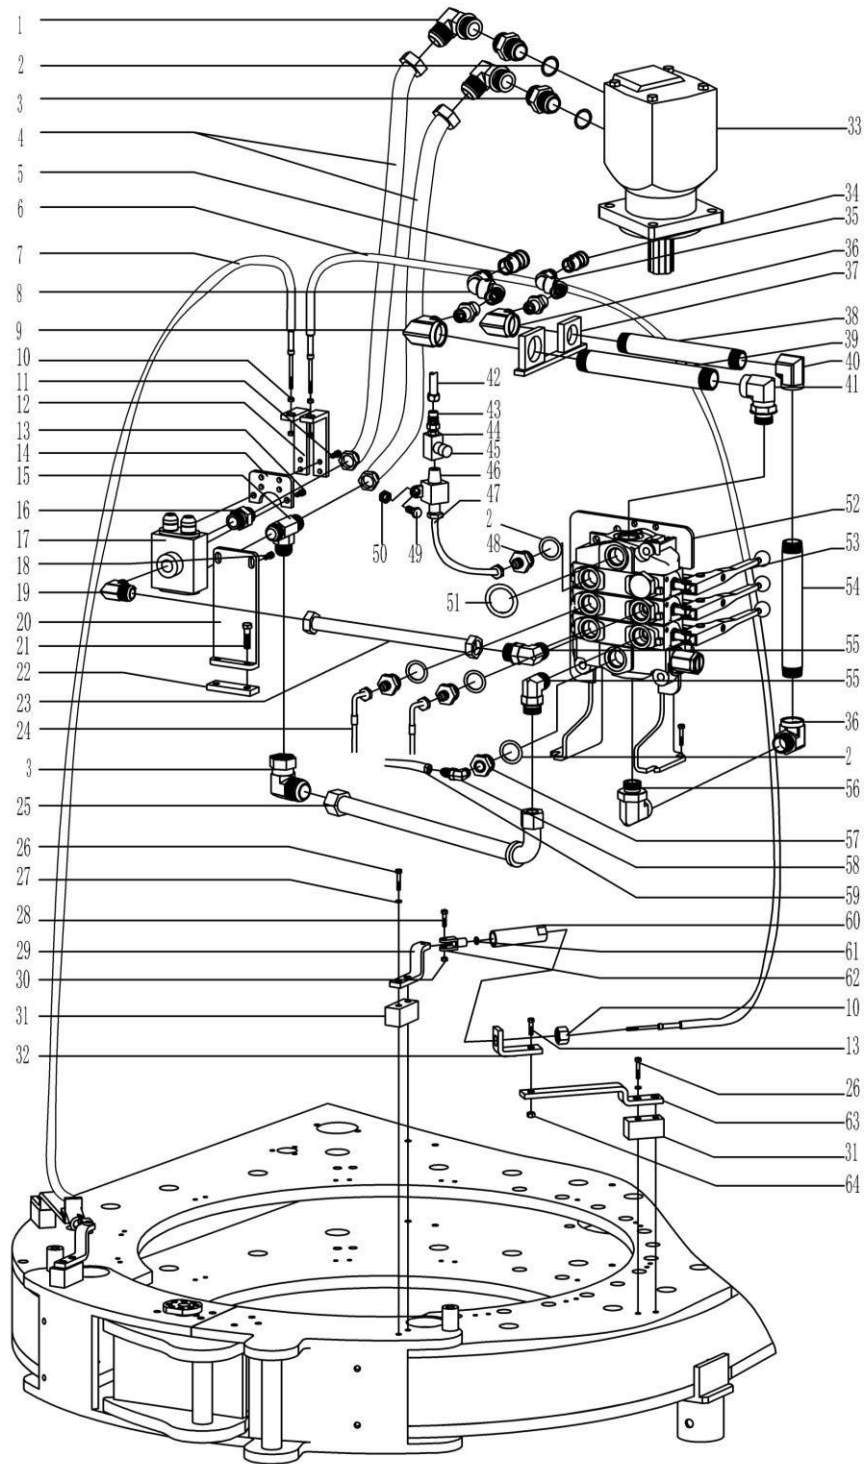

Fig 11
7.11 Control valve bank assembly (Fig 11, Table 11)